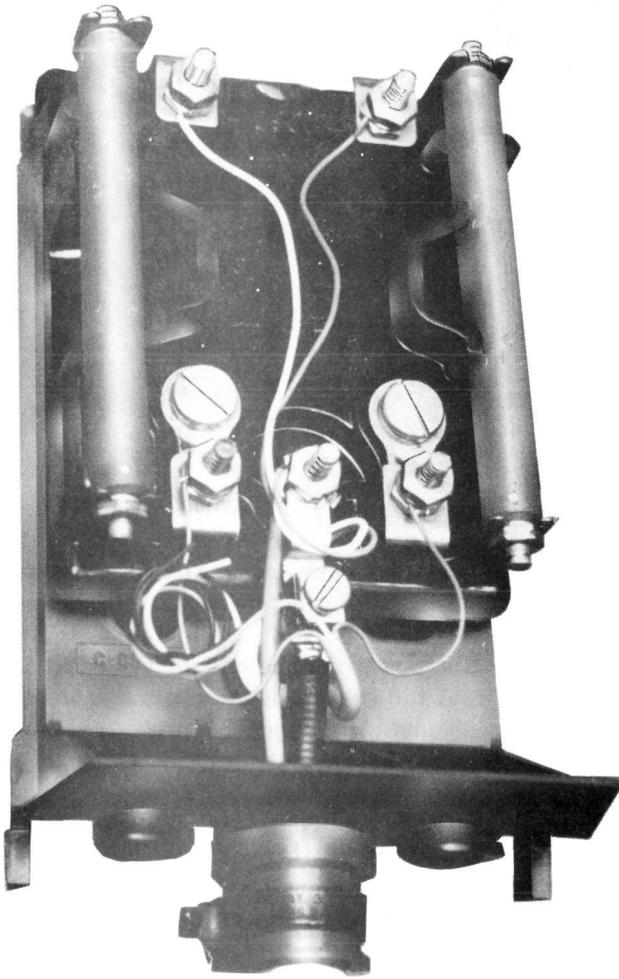

Fig. 43—106C Protector in C Customer Service Closure
5.06 When the 106C protector is installed outdoors, use a C (Fig. 43) or D customer service closure. Where this combination is used to terminate buried service wire, mount the protector upside